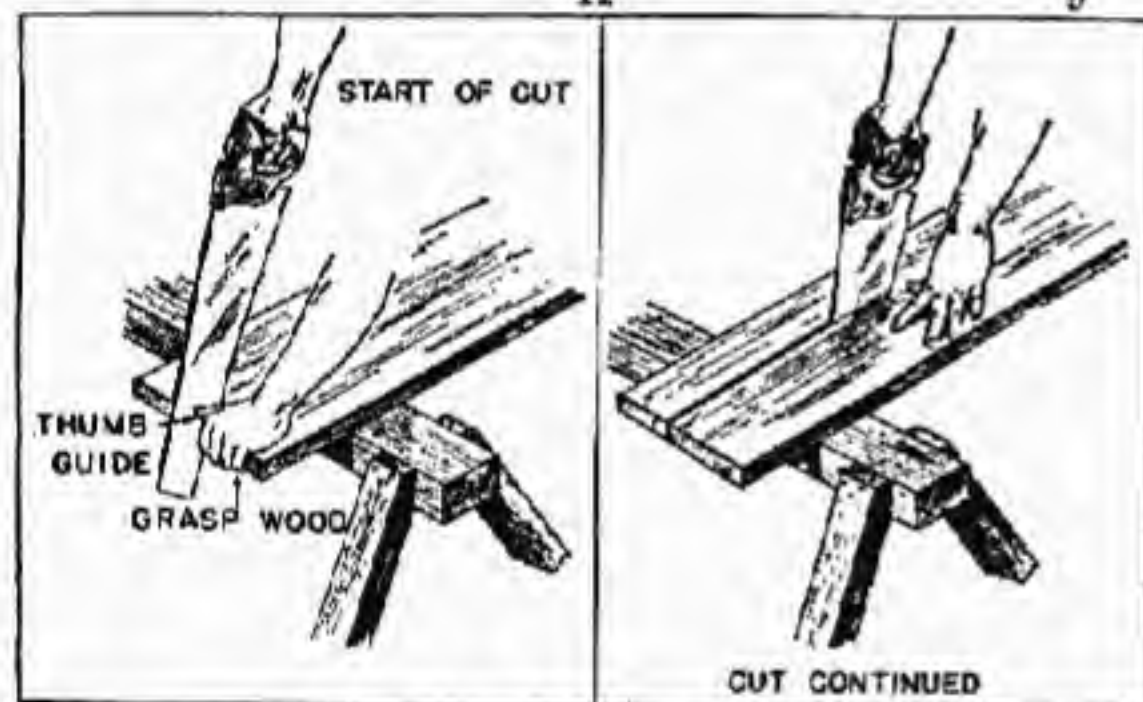

FIGURE 10.—Using the saw.
(1) *Hand saws* (fig. 9①).—There are two kinds of hand saws—crosscut and rip. A crosscut saw has knifelike teeth and is used to cut wood *across* the grain. A rip saw has chisel-like teeth and is used to cut wood *with* the grain. The hand saw is used in most common carpentry work. A saw cut should be started by guiding the blade against the thumb of the left hand and drawing the saw backward (fig. 10).